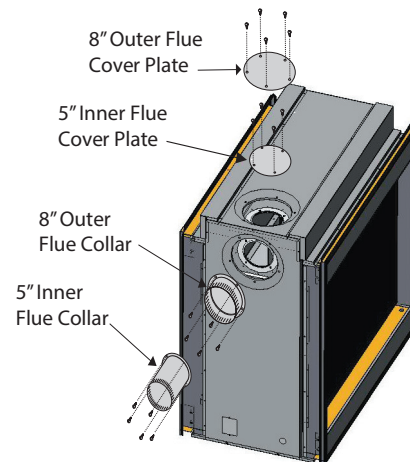

Figure 8a. Flue cover and collar installation, Side Vented fireplace.
3. Install the (removed) Side flue cover and gasket material, to the Top vent outlet. Fasten the cover with included hardware, as illustrated Figure 8a.
4. Install the (5" and 8") collars to the Side vent outlet using the included hardware, as illustrated Figure 8a.